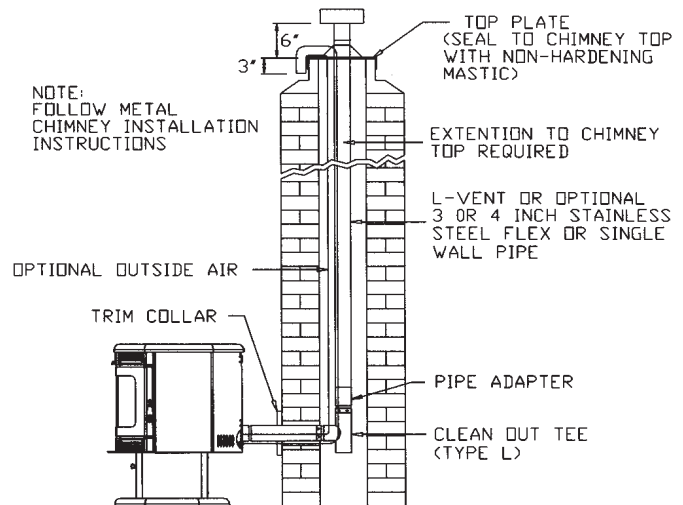

Figure 12
4. Install the tee on the bottom of the vertical pipe system and lower it down the chimney until the center branch of the tee is level with the center of the hole in the masonry, as shown in Figure 12.